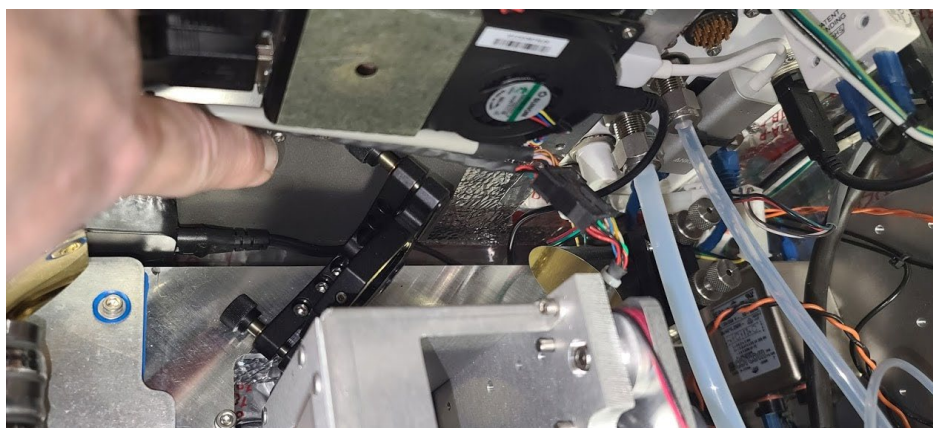

Figure 8. Beamsplitter (black object at 45-degree angle) with adjustment screws.
- iii. Open the instrument and carefully use the beam splitter adjustment screws to maximize signal strength. This means making small adjustments to each screw until you reach the maximum signal strength (Figure 8).